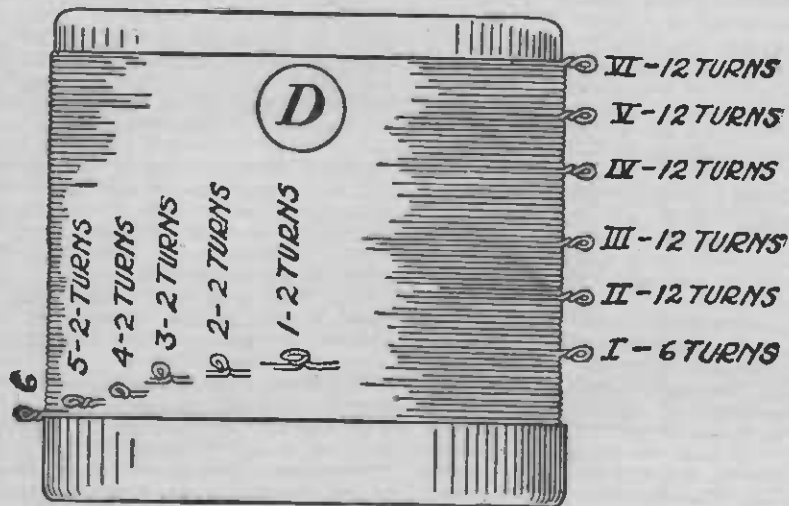
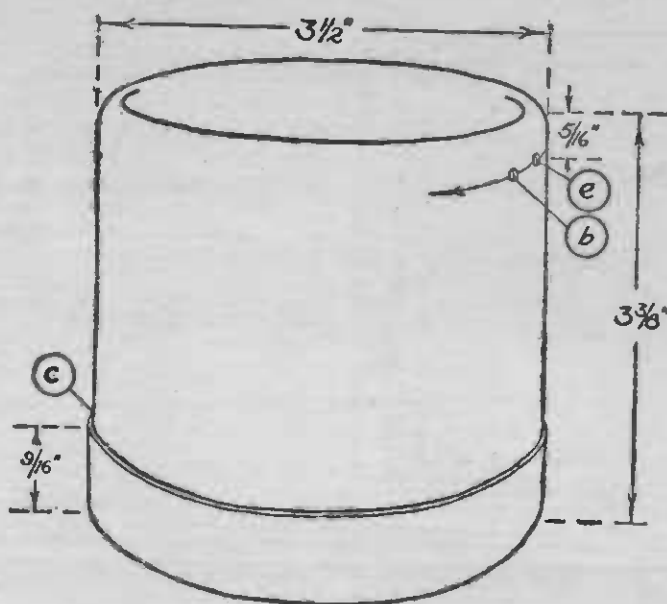
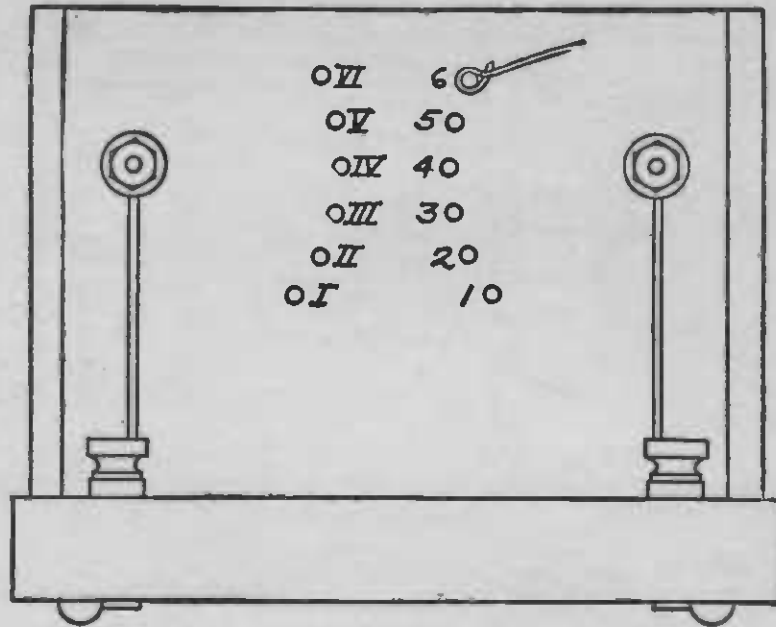

FIGURE 7
FIGURE 7A
FIGURE 12
D. TUNING INDUCTANCE (Figure 7). This is made by winding wire on a one-pint cardboard carton, which as purchased, will be too long for the space requirements of the set. It is shortened to the dimensions shown in Figure 7a by cutting off a ring from the open end and also from the cover, and is here shown
bottom side up with cover in place. The carton is wound with 76 turns of No. 24 dcc wire, starting with two small holes, b and e, and winding in the direction shown by the arrow. The wire fills the space between b, and the edge of the cover. In Figure 7 is shown the completed tuning inductance which has two terminals and ten intermediate taps. The terminals are made by forming the bare end of the wire into a small eye as shown. The intermediate taps are formed, while winding, by baring a 1/2-inch length of wire and twisting this into a small loop. The inductance may be dried in a warm oven.
Twelve short lengths of No. 20 bare copper wire should be soldered to the switch points where they project through the rear of the panel as shown in Figure 12.
The cover of the tuning inductance is tacked to the base equally distant from the edges and one-half inch from the rear of the panel. The inductance is fitted into the cover and secured by glue or varnish. The location for the taps will be determined by referring to Figure 3. Tap 1 (Figures 3, 7, and 12), will be directly below switch point 1 (Figure 12). The twelve wires from the switch points (Figures 3 and 12) are formed into neat curves, cut off to the proper length so that they may just be inserted in the inductance taps, and soldered in place using a very small soldering iron and a small amount of solder. Switch points in Figure 12 are numbered to correspond to taps in Figure 7. Point 1, being most inaccessible is first soldered to tap 1.